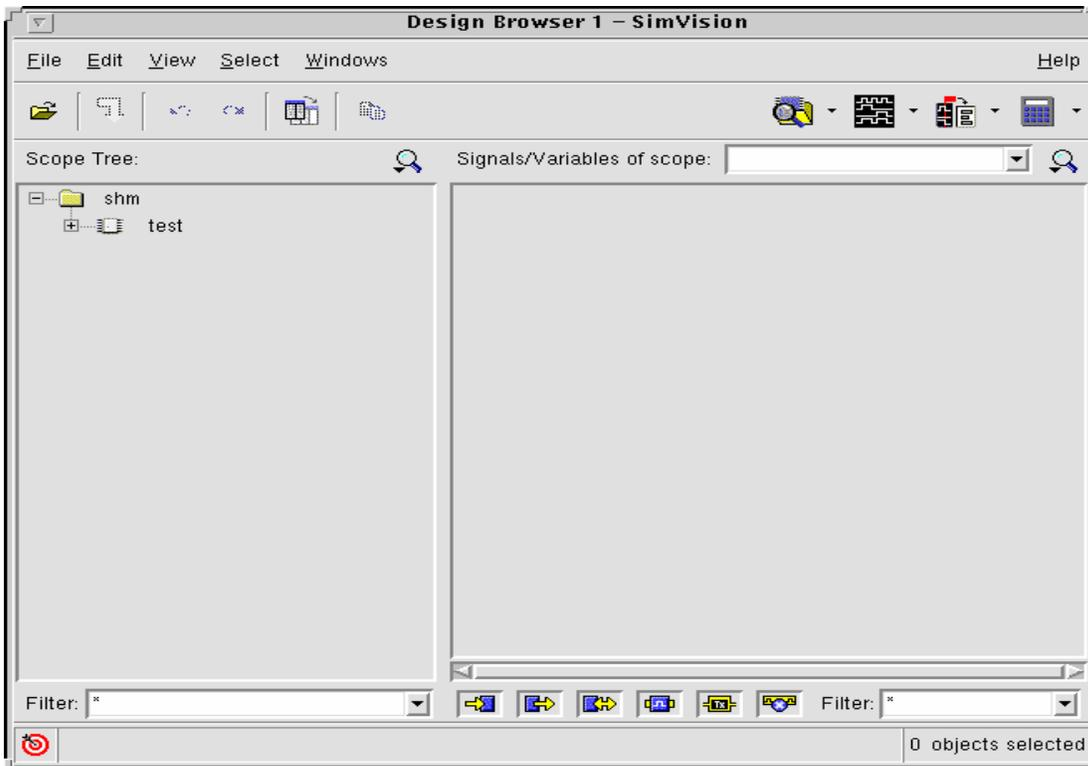
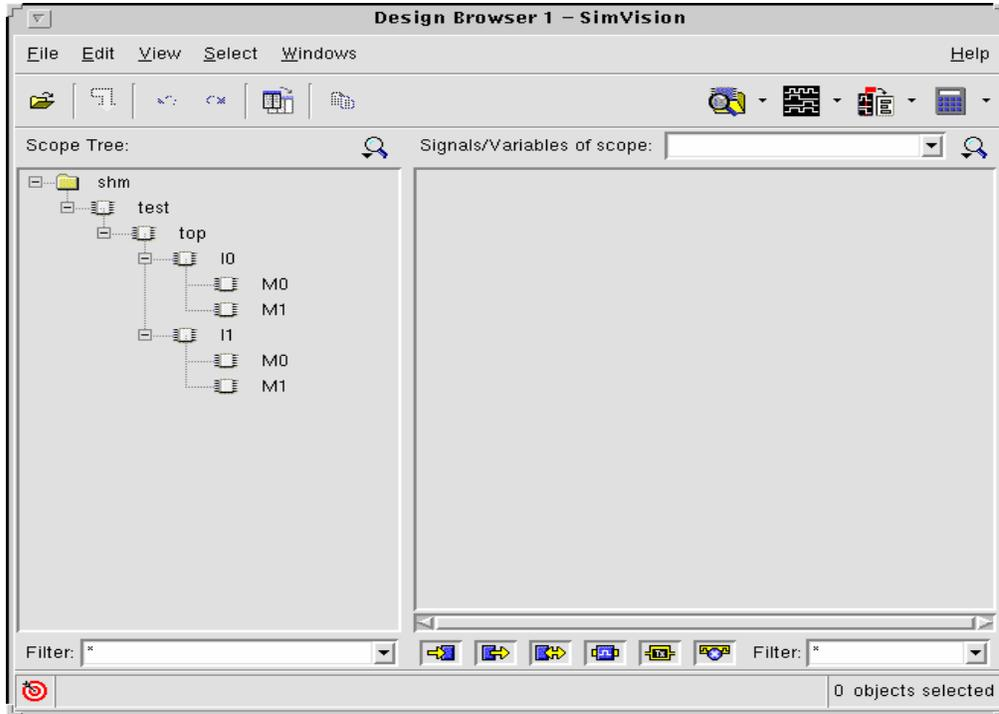
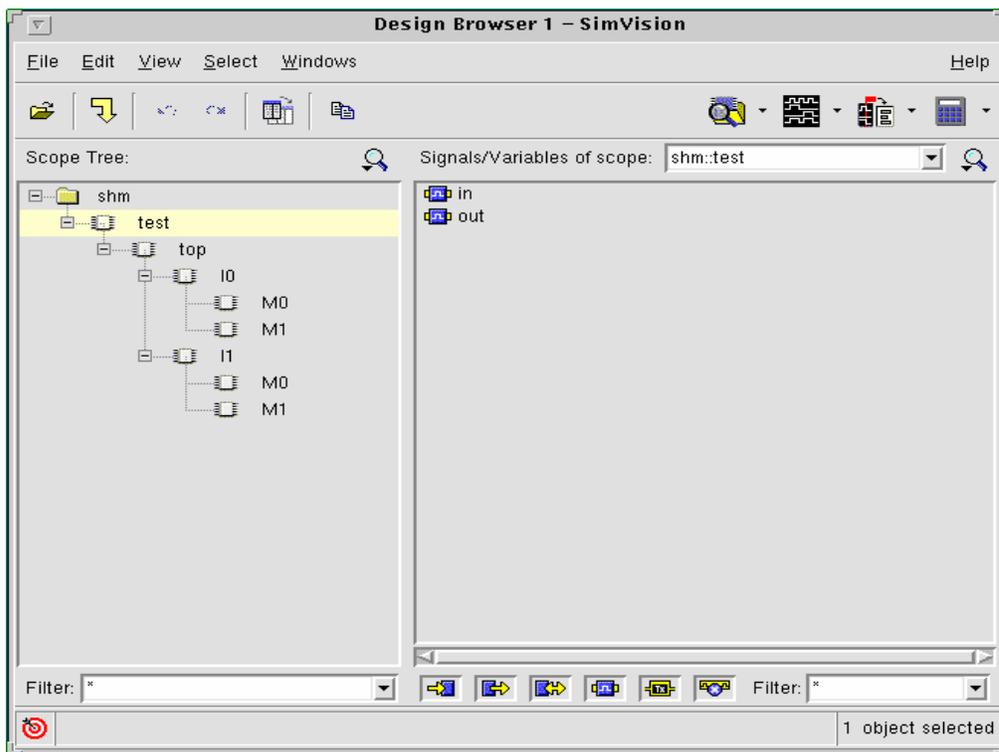
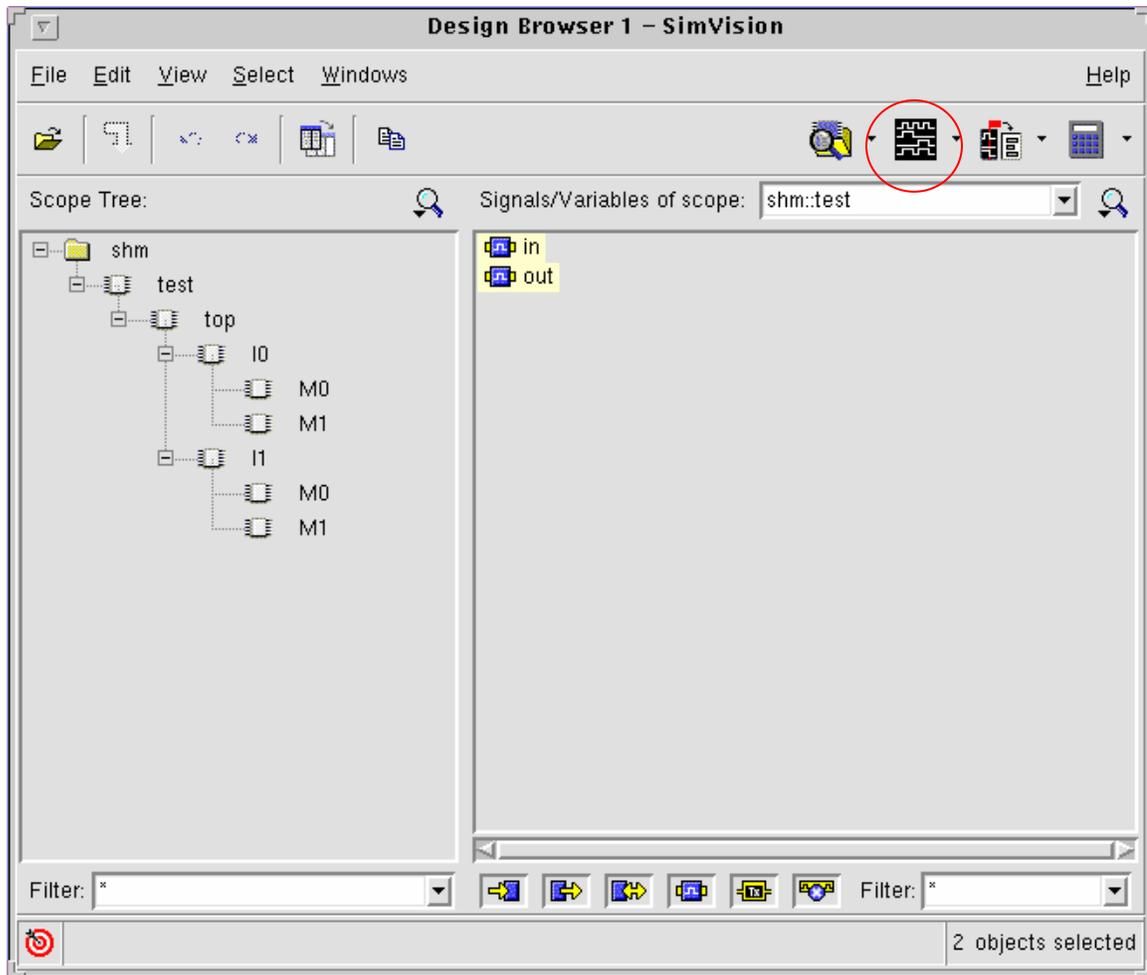

Fig 18: SimVision after opening database
Fig 19: Hierarchy of the circuit
Fig 20: Hierarchy of the circuit
Fig 21: Simvision
f. Now the “SimVision” window appears as shown in Fig 18.
g. In Fig 18 the circuit hierarchy can be seen as shown in Fig 19.
h. In Fig 19 click on test and the signals on the top level of the circuit appear as shown in Fig 20.
- i. In Fig 20 select the signals to be viewed and click on the button circled in Fig 21.